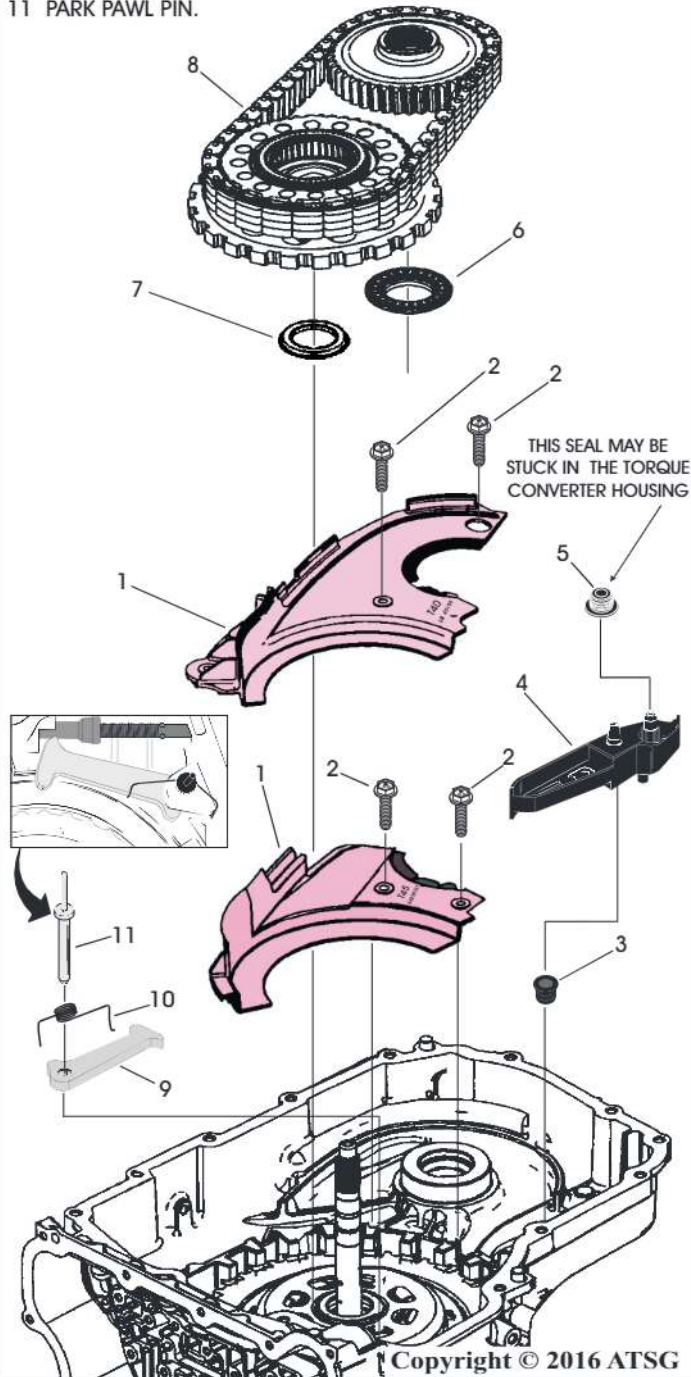

Figure 62
47. Remove the sprockets and drive chain as one assembly as shown in Figure 62.
48. Remove the drive link lube scoop and discard the two drive link lube seals as shown in Figure 62.
49. Unhook the park pawl spring and remove the park pawl shaft, spring and pawl assembly as seen in Figure 62.
50. Remove the two front differential carrier baffle bolts and the plastic baffle as shown in Figure 62.